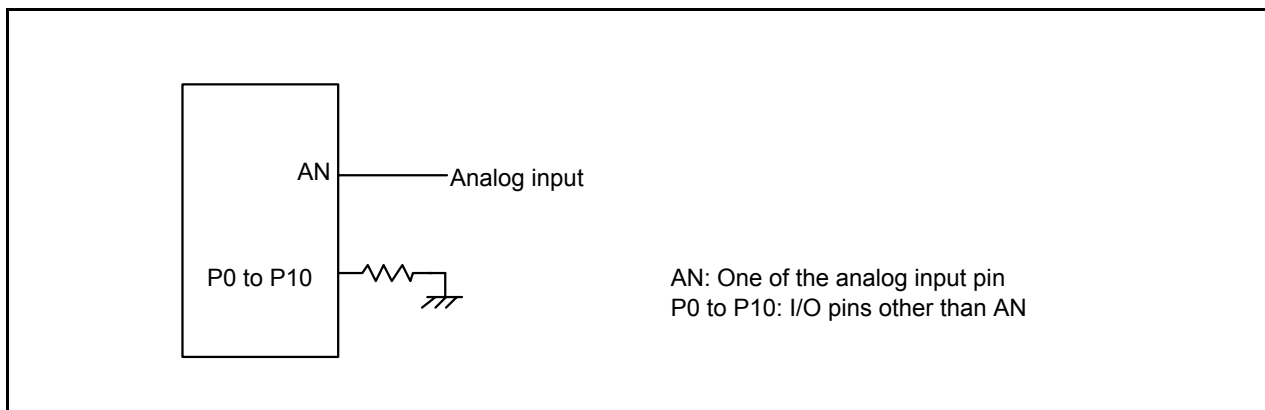

Figure 5.26 A/D Accuracy Measure Circuit
2. Flash memory rewrite disabled. Except for the analog input pin, set the pins to be measured as input ports and connect them to V_{SS} . See Figure 5.26 "A/D Accuracy Measure Circuit".